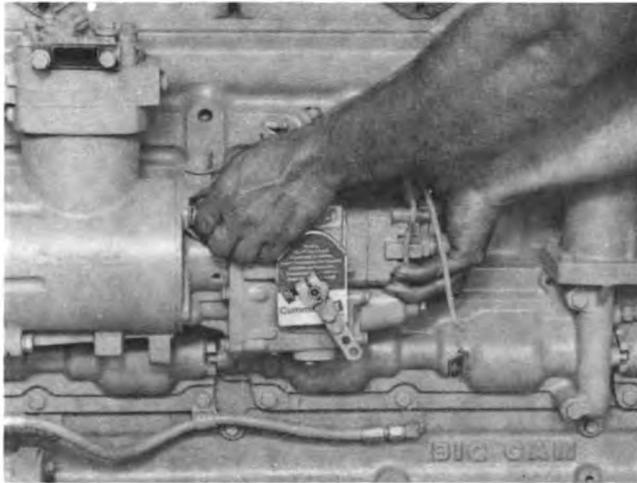

Fig. 0-25. Remove The Fuel Pump.
- 2. Remove the fuel pump from the air compressor, Fig. 0-25. Remove the fuel pump drive spider coupling.**